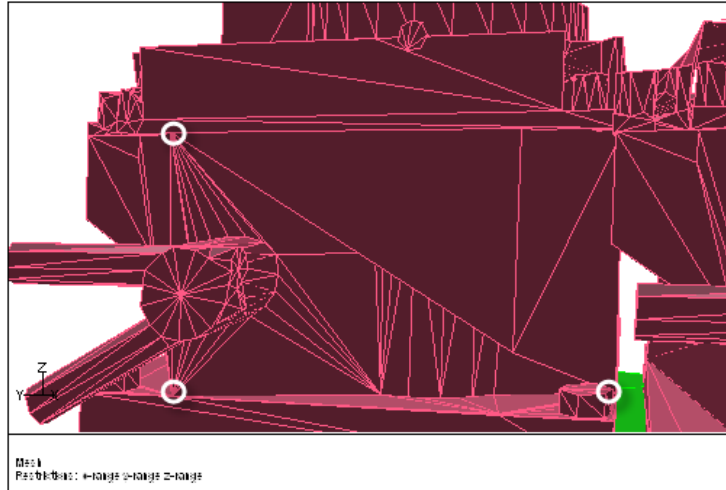

Figure 7.3: Nodes Selected to Close Hole-1 in f\_v8-airintake
- (e) Zoom in to the region shown in Figure 7.3.
- (g) Select the three nodes surrounding the hole using the right mouse button (Figure 7.3).